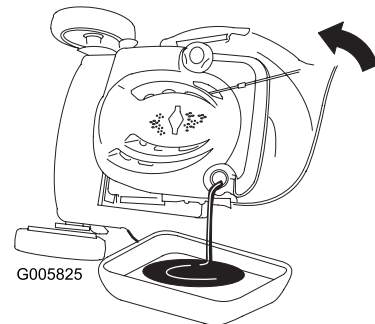

Figure 28
3. Tip the mower onto its side with the air filter up to drain the used oil out through the oil fill tube (Figure 28).